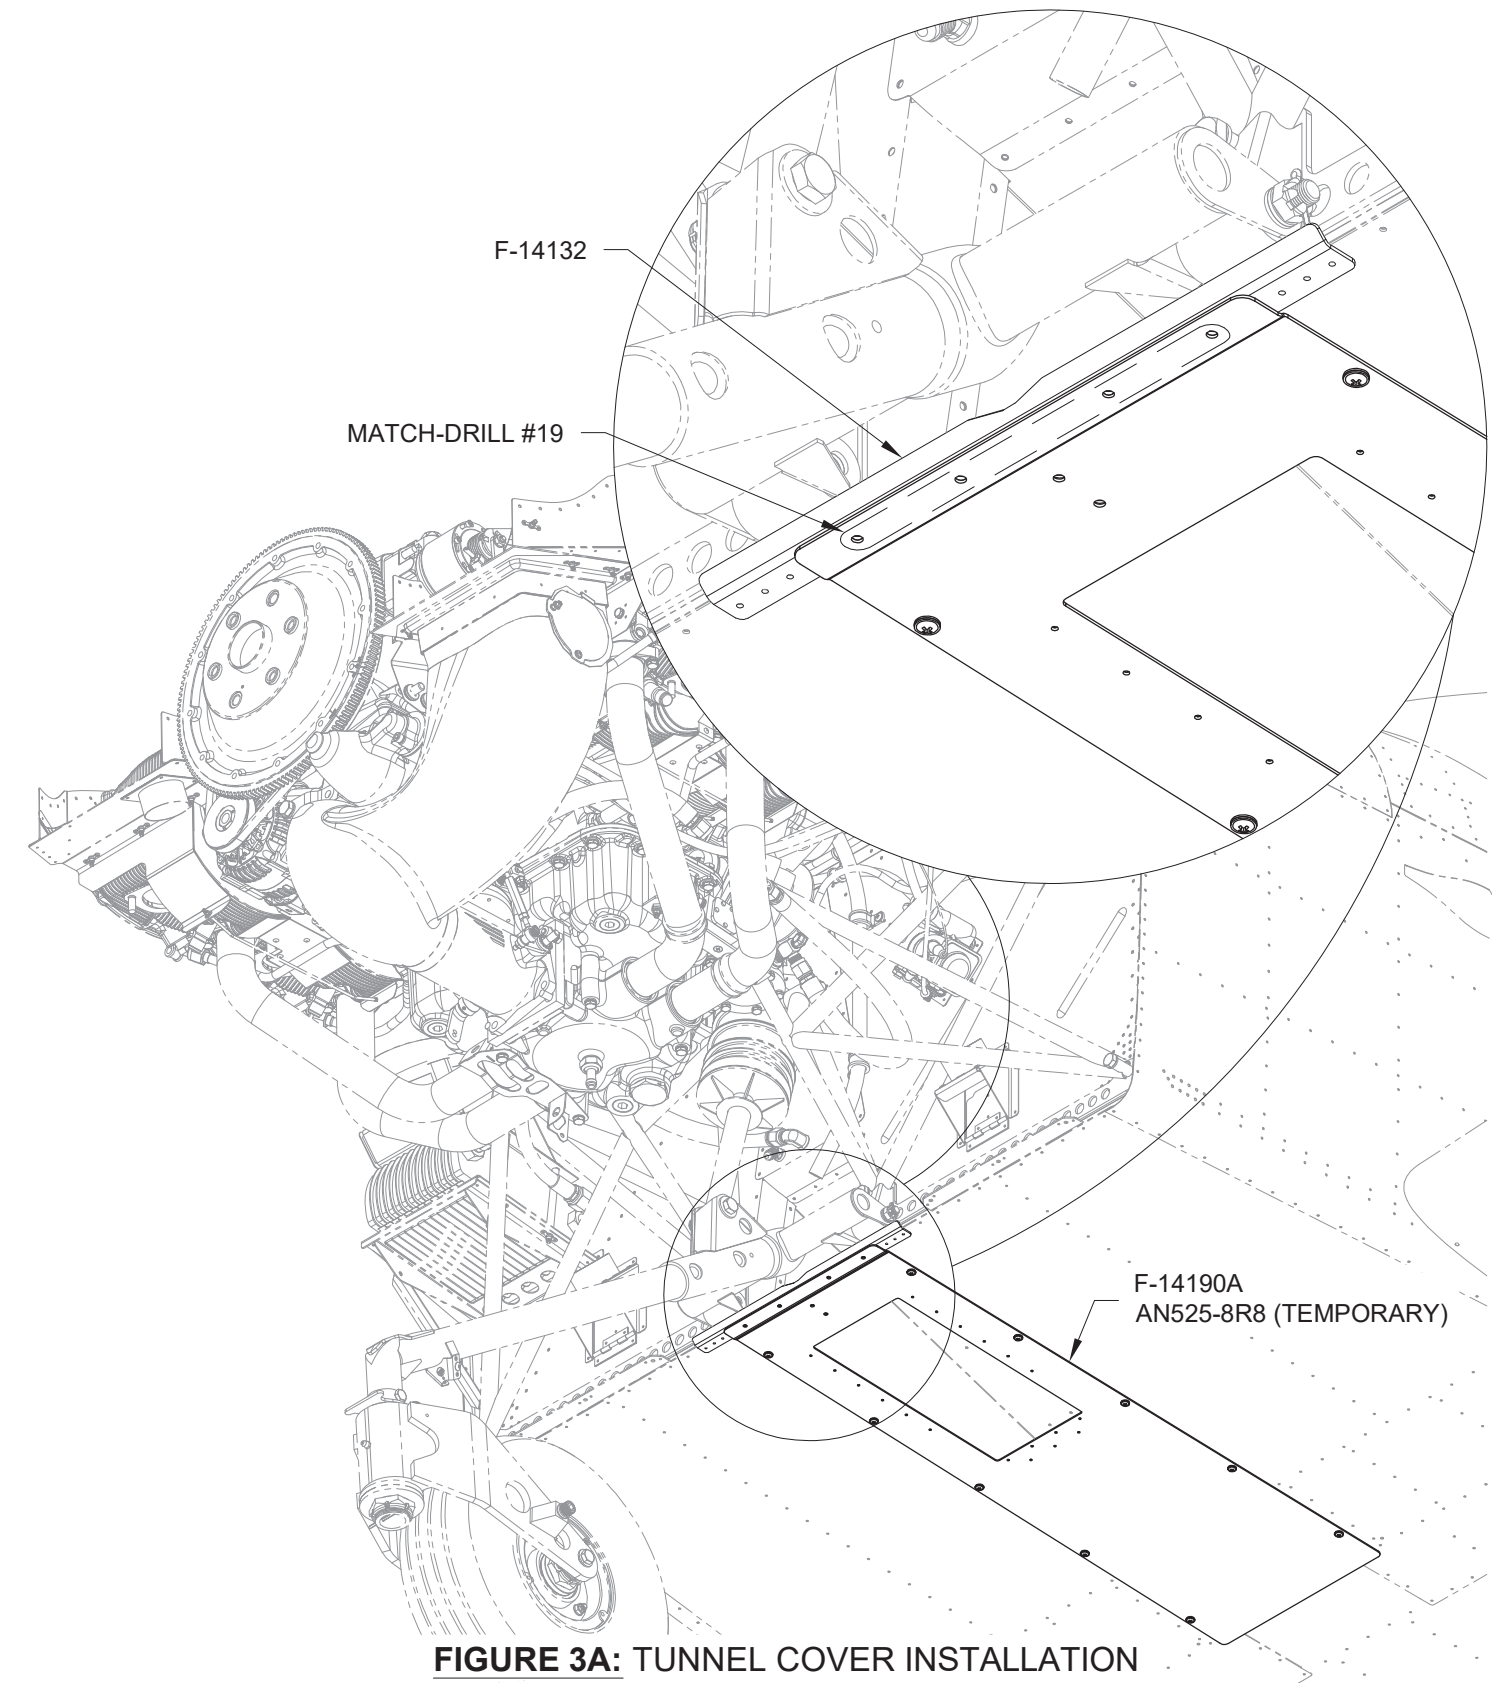

FIGURE 3A: TUNNEL COVER INSTALLATION
Step 4: Temporarily install the F-14190A Tunnel Cover as shown in Figure 3A.
Step 5: Match-Drill the four holes in the F-14132 Tunnel Angle as shown in Figure 3A.